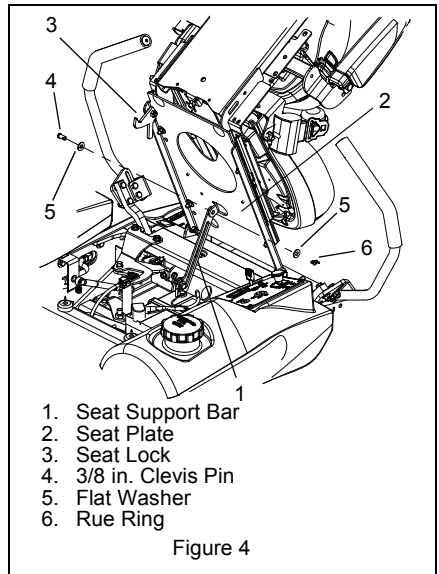

Figure 4
2. Carefully rotate the seat plate forward far enough to install the seat support bar in the location shown in figure 4.